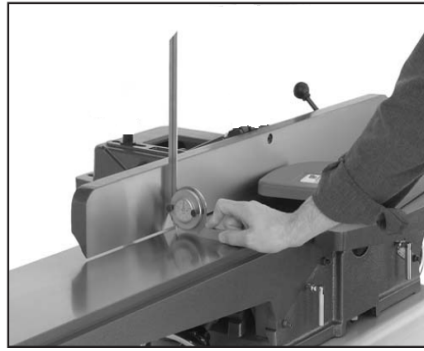

Figure 15
1. Using a 90° square, adjust the fence to the 90° position, as shown in Figure 15